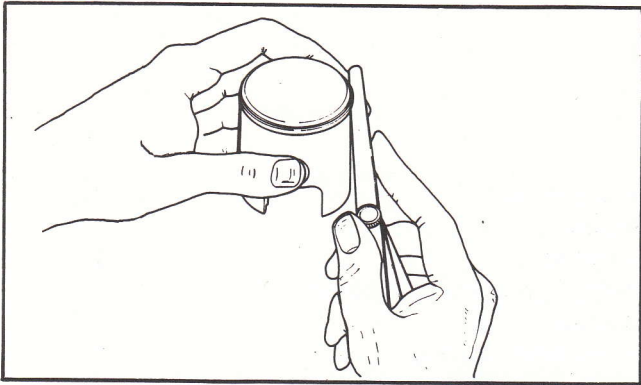

Fig. 29 - Piston ring side clearance
- Piston ring side clearance in groove: $0.0025 \div 0.0045$ in. (wear limit: 0.006) (fig. 29).